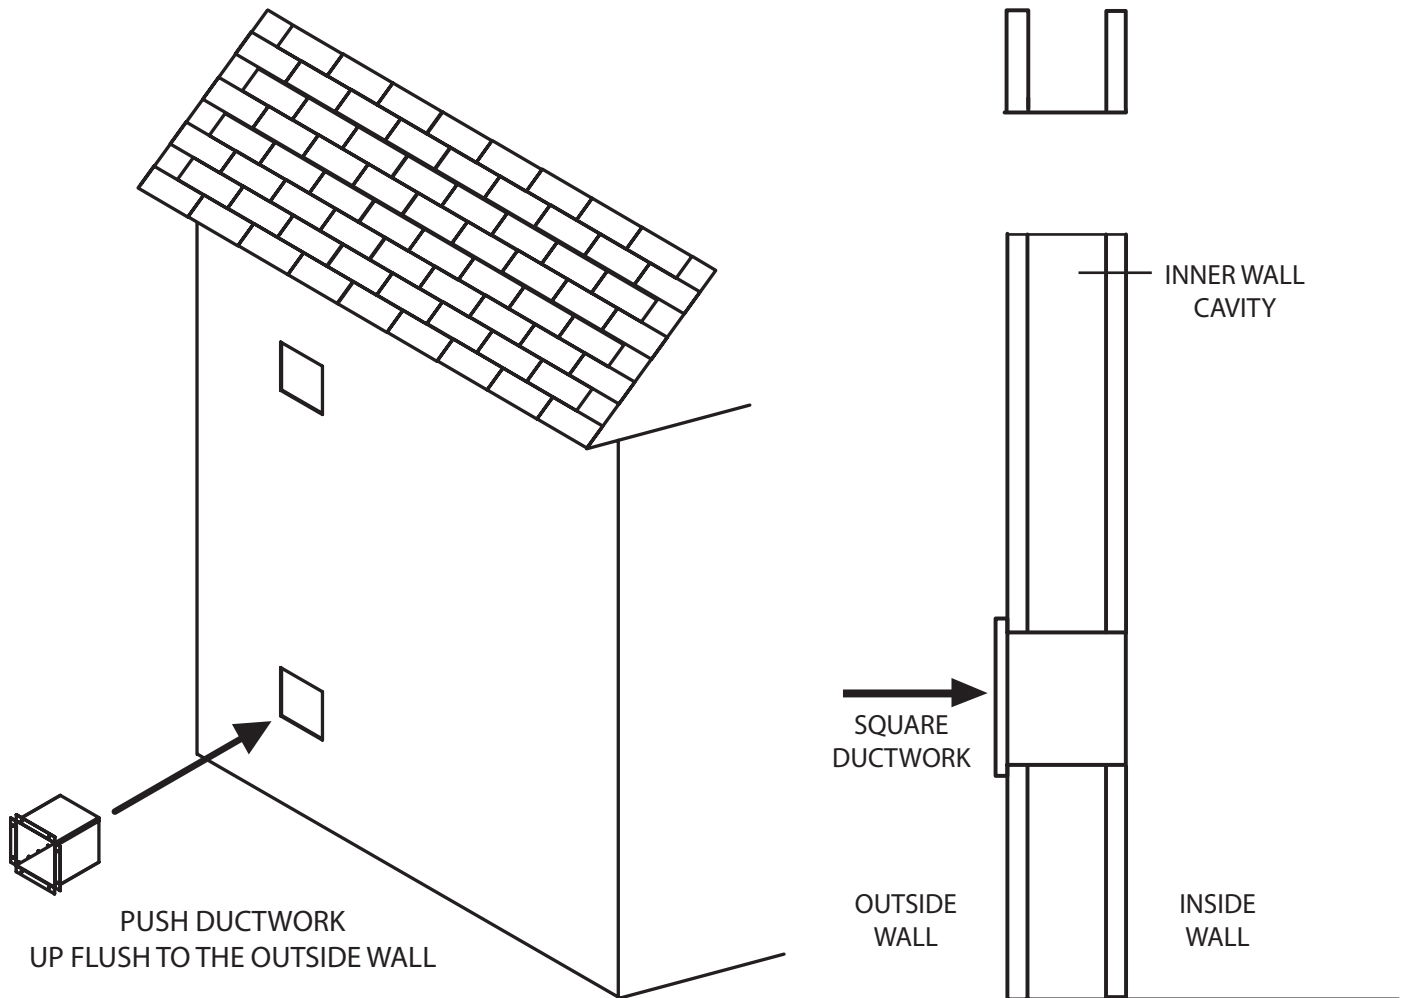

Figure 14. Inlet ductwork installation.
f. Place one of the assembled square duct work into the bottom, inlet passage as shown in Figure 14.